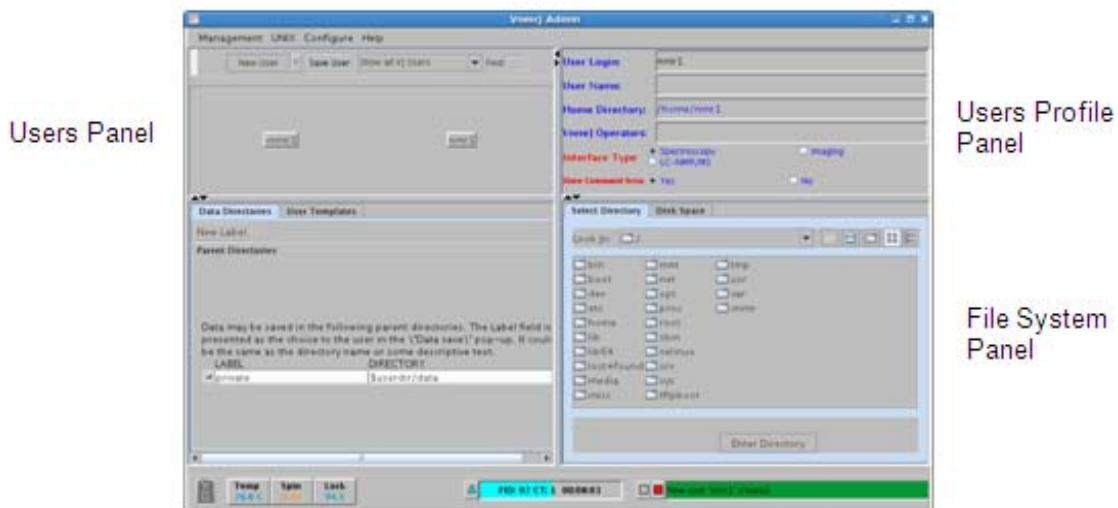

Figure 4 VnmrJ 3.2 administrator window
- 3 If prompted, enter the administrator password to start VnmrJ 3.2 Admin; see Figure 4.
The VnmrJ 3.2 Admin interface provides the tools for administering VnmrJ 3.2 software and user accounts, see Figure 4. Select Administration functions from the menu bar.